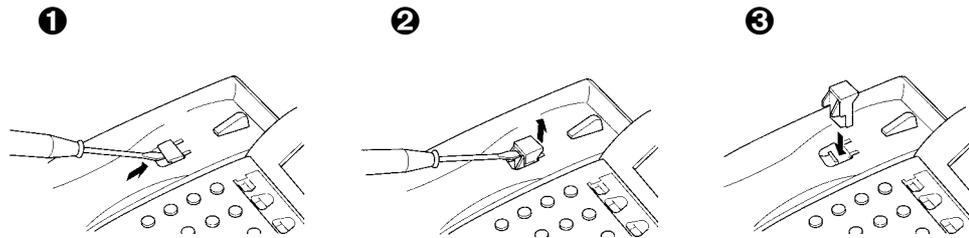

Figure 4-16: Positioning the Handset Hanger
2. Install it back in its original position so that the hanger protrudes providing a rest for the handset. (This procedure applies when using either the base unit or the WMU-UA Unit.) Refer to *Figure 4-16:: Positioning the Handset Hanger, Pg 72* for the steps for removing and remounting the handset hanger.